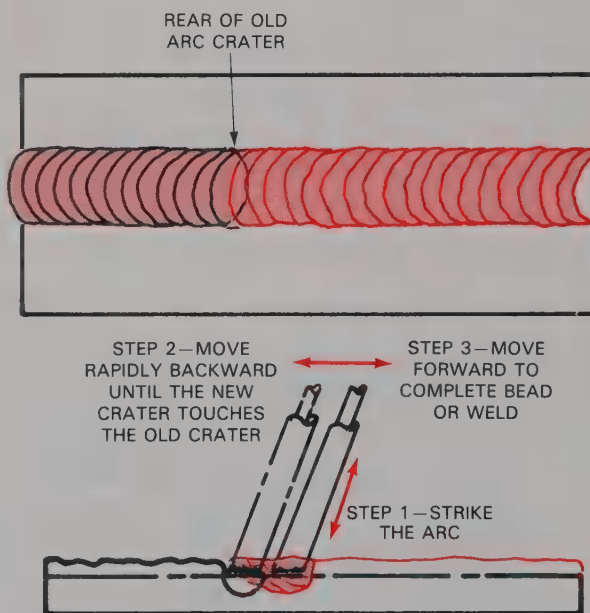

Fig. 14-11. Restarting an arc.
3. Move forward as soon as they touch to complete the weld. See Fig. 14-11.